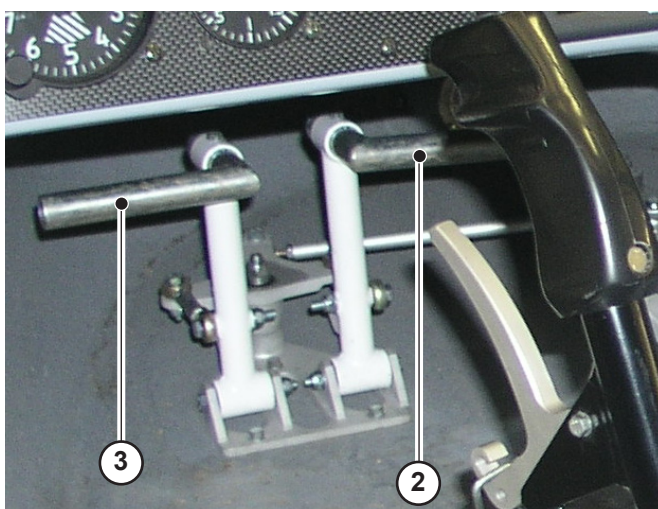

Fig.13 - Direction controls
2.6.g Direction controls (Fig. 13)